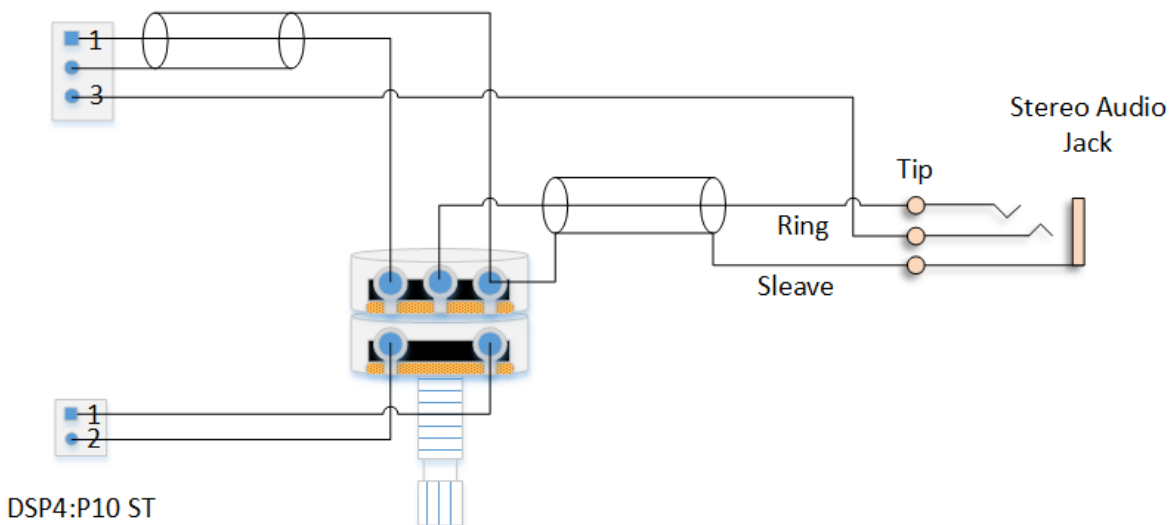

Fig 3.19- Diagram of Volume Pot and TRS connector
Step 10: Volume Pot to DSP4 ST (String Tune) input: Using the string tune cable shown in Fig 3.17, solder to the Volume Pot as shown in Fig 3.19, and install the plug into the DSP4 board. Note that there are two different two pin connectors on the DSP board. Be sure to use the one labeled “ST”.
Step 11: Tone Pot to Volume Pot cable: Identify the cable shown in Fig 3.18. This cable plugs into the Tone Pot circuit board; the shielded wire connects to the Volume Pot and the orange wire connects to the 1/4 inch jack as shown in Fig 3.19.
Step 12: Volume Pot to 1/4 jack cable: Using the leftover shielded cable, connect the Volume Pot output to the Stereo Jack as shown in Fig 3.19.